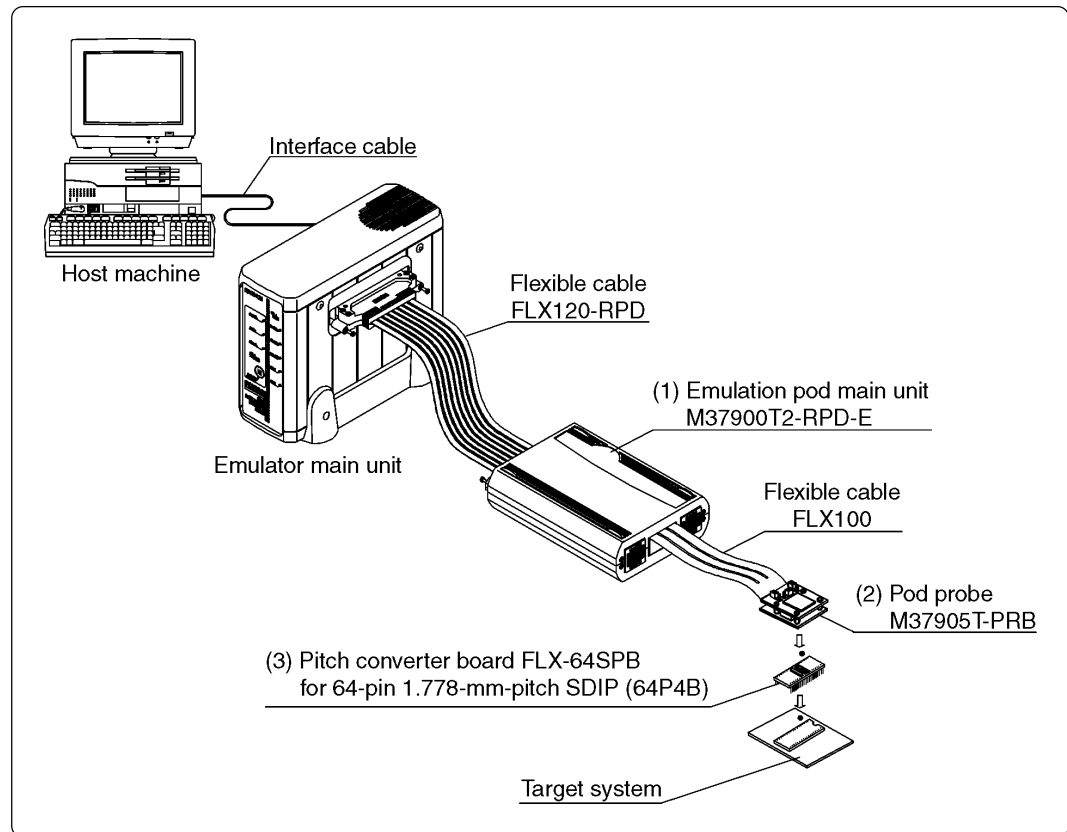

Figure 2.1 System configuration
Products (2) and (3) shown in Figure 2.1 are included with this product. Get (1) separately.
(1) Emulation pod main unit (M37900T2-RPD-E)